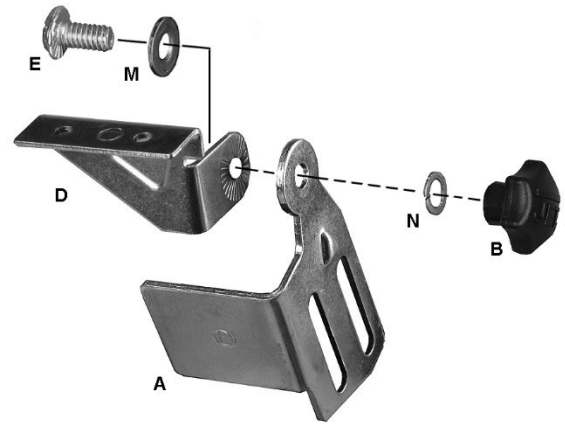

Figure 3: brackets to spark guards
Refer to Figure 3.
**Note:** Spark guards (A) and Brackets (D) are marked **L** for left side assembly and **R** for right side assembly.
1. Assemble the left spark guard (A) and eye shield bracket (D) using Figure 3 as a guide. Make sure spark guard and bracket are marked **L**.